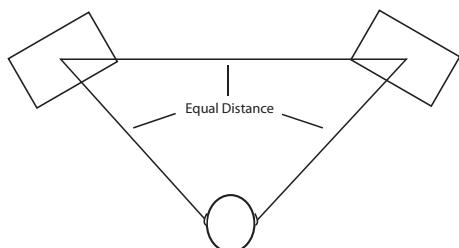

Figure 2. Prime Listening Spot
*When positioning the monitors you'll want to set up what is commonly referred to as the "mix triangle". In this ideal configuration, the space between the left and right monitor is equal as is the distance from the listener to each monitor, forming an equilateral triangle. (Figure 2.)*